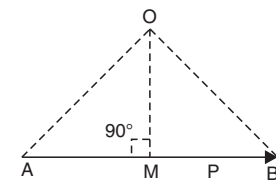

Fig. 3.7
**Note.** Refer Fig. 3.7. Consider a force  $P$  which can be represented in magnitude and direction by the line  $AB$ . Let  $O$  be the point, about which the moment of this force is required. Draw  $OM$  perpendicular to  $AB$  and join  $OA$  and  $OB$ .